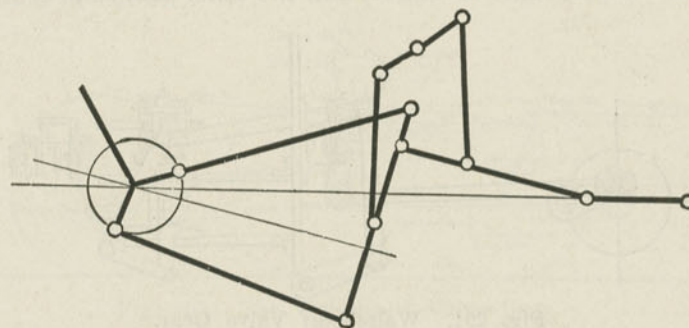

Fig. 290. Allan Valve Gear, Open Rods.
*A. The Allan or the Trick; Allan and Trick having invented it independently, the former slightly before the latter. It is shown in outline in Fig. 290, with open rods.*